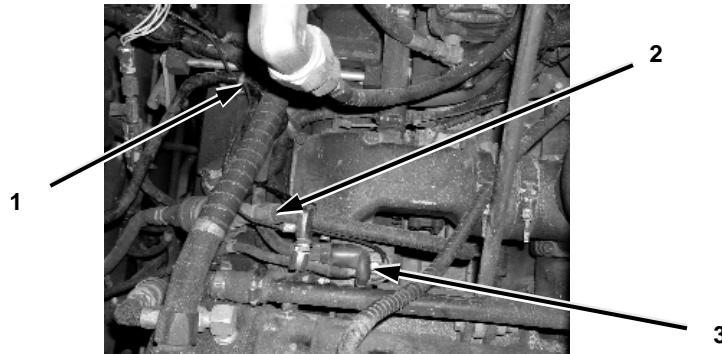

Figure 2-15. MCU Power Lead Connection at Engine Terminal.
Step 5 below applies to Figure 2-15.
5. Route and connect the opposite end of the MCU Power Lead (12491611-1) (2) to the power terminal (3) on the top of the engine behind the alternator. Use 5 or 6 Electrical Tie Straps (MS 3367-2-0) (1) to fasten the MCU Power Lead (1) to the right outside of the driver's compartment where required.